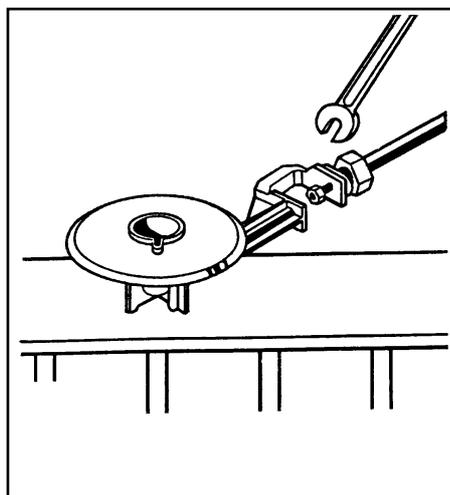

Fig. 30
- using a no. 7 spanner unscrew and remove (fig. 30) the nozzle replacing it with the new one (see tab. 2 nozzles).